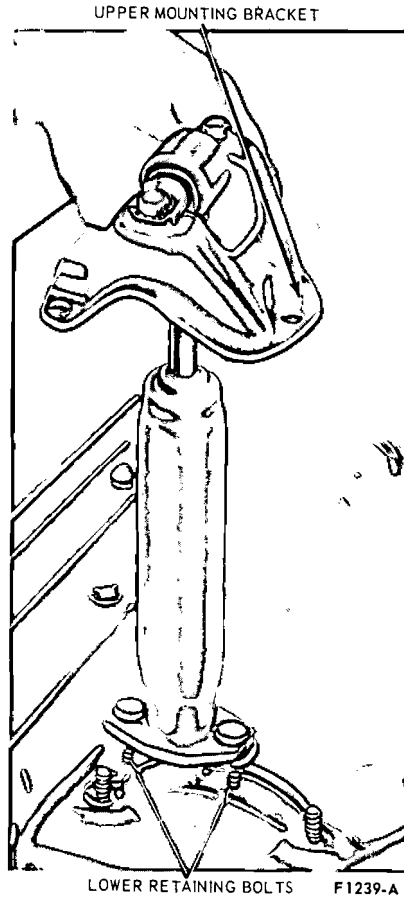

FIG. 12—Removing or Installing Front Shock Absorber—Typical
4. Remove the shock absorber upper mounting bracket attaching nuts, and remove the shock absorber and bracket as an assembly (Fig. 12).